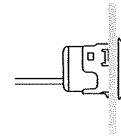

Figure 3
- 4) Push the LED lights into the holes (Figure 3).